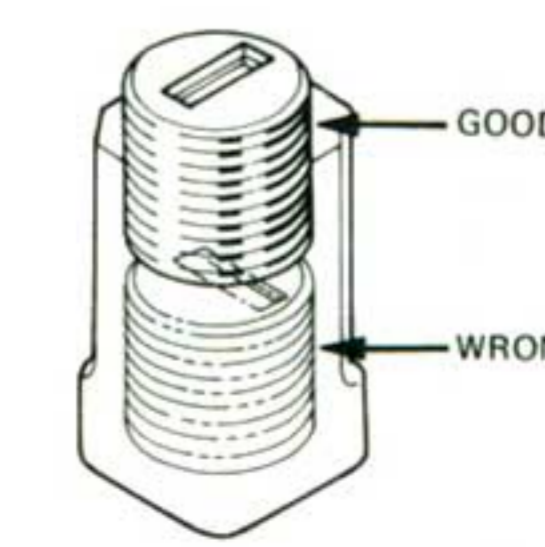

Fig. 5
- Fig. 5 Core Setting of L-102 and L-202